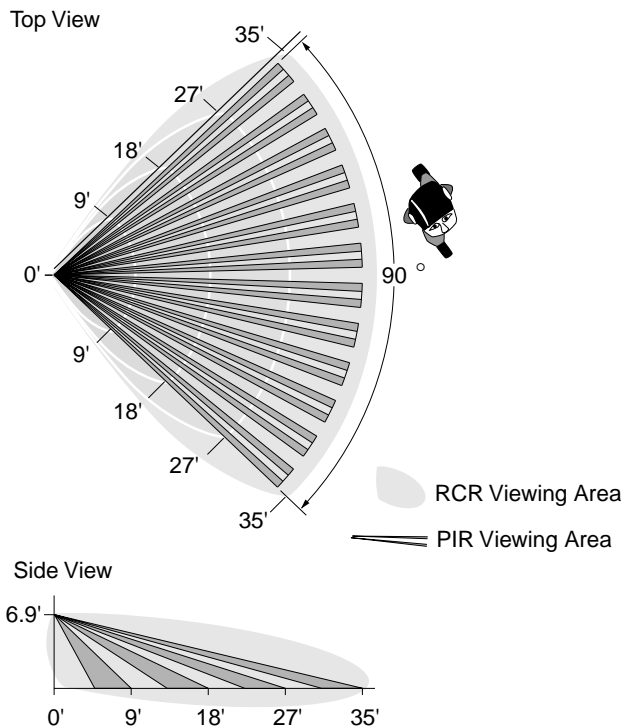

Figure 2 - RCR and PIR Coverage Patterns
- Mount the detector so the expected movement of an intruder is across the detection pattern. See Figure 2.